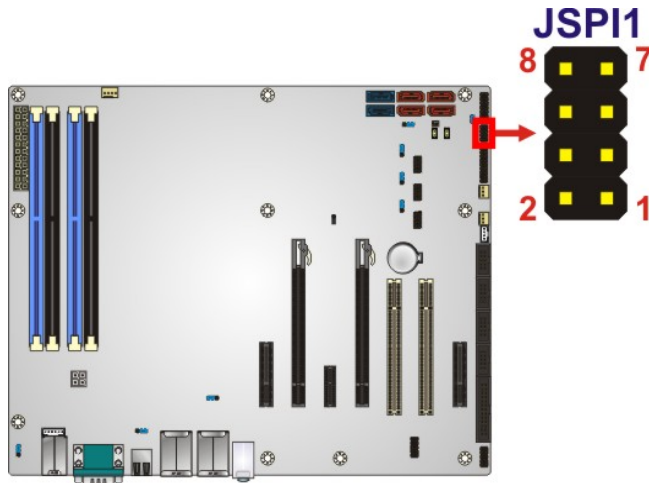

Figure 3-26: SPI Connector Location
- CN Location:** See **Figure 3-26**